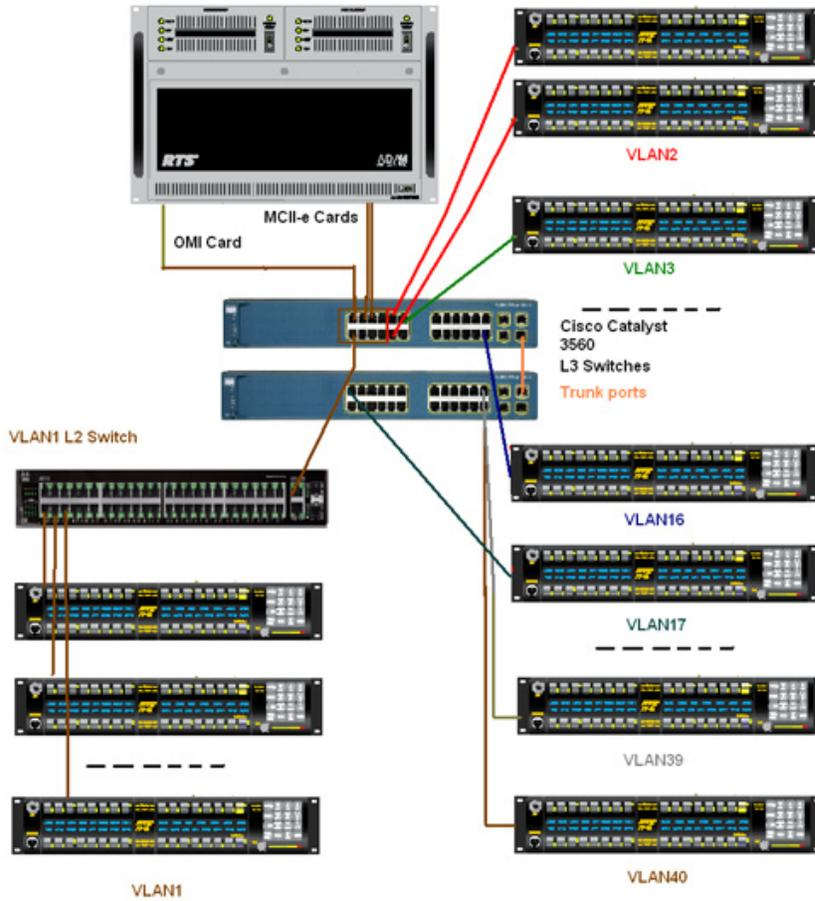

FIGURE 4. 40 VLAN System with trunked switches
In the System drawing (Figure 4), one (1) OMI card is shown supporting VLAN1 through VLAN 40 in a more complex system diagram. There are two (2) MCII-e cards being used as redundant DHCP servers, meaning that if one fails, the other takes over the DHCP responsibilities. There are two (2) Layer 3 switches connected creating trunked ports creating communication between all the VLANs. Also connected to the two (2) Layer 3 switches is a Layer 2 switch that is acting as a VLAN for multiple keypanels.